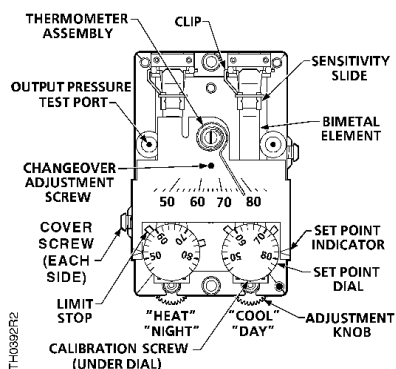

Figure 3. TH192 HC Thermostat Details.
2. Place a screwdriver in the center of the thermometer assembly (*Figure 3*). Carefully rotate thermometer assembly until pointer tip indicates the correct room temperature.
3. Place an Allen wrench in the opening of the thermometer assembly (*Figure 3*) to adjust the changeover adjustment screw as follows:
To change the limit stop settings, use a needle nose pliers to pull the limit stop (*Figure 3*) between the set point cam gear teeth. Do not pull limit stop any more than necessary to clear the gear teeth. Rotate the limit stop to its new position. Changing the limit stop position one gear tooth changes the limit stop setting by 1-1/3°F (0.7°C).
The factory thermostat sensitivity setting is approximately 2.5 psi/°F (31 kPa/°C). To change the sensitivity, use a flat blade screwdriver to carefully move the sensitivity slide (*Figure 3*) to the desired position as follows:
4. If the control pressure does not read 7 to 8 psi (48 to 55 kPa), turn the calibration screw (*Figure 3*) using the calibration tool or a 1/8" (3.2 mm) wrench until the pressure is 7 to 8 psi (48 to 55 kPa). The sensing element is now in calibration and the set point can be changed to the desired room temperature.
4. If the control pressure does not read 7 to 8 psi (48 to 55 kPa), turn the calibration screw (*Figure 3*) using the calibration tool or a 1/8" (3.2 mm) wrench until the pressure is 7 to 8 psi (48 to 55 kPa). The sensing element is now in calibration and the set point can be changed to the desired room